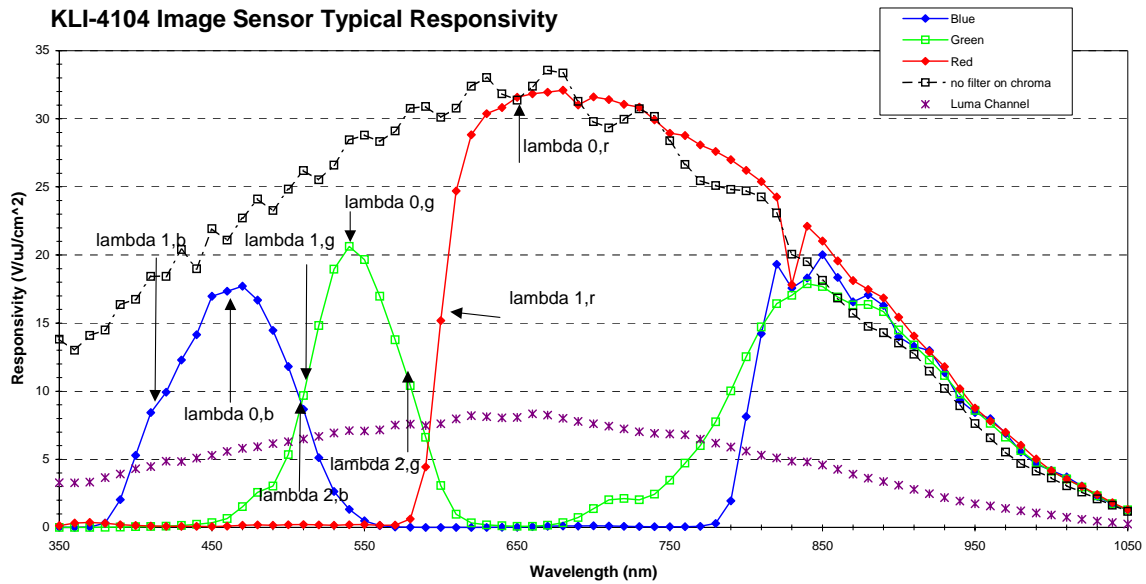

Figure 11: Typical Responsivity
1. A filter set has been implemented for a series of quad-linear image sensors optimized for high sensitivity color scanning. Values for the various nominal wavelength positions are shown below with corresponding tolerances for responsivity and wavelength as indicated for Color Image Sensors. See Figure 11 for clarification of parameters.
3. Values for gauging filter performance are determined from Figure 11. The center (or peak) transmission wavelength is specified as  $\lambda_0$ , and the 50% points are given as  $\lambda_1$  and  $\lambda_2$ , corresponding to the near and far wavelength sides of the filter pass band.